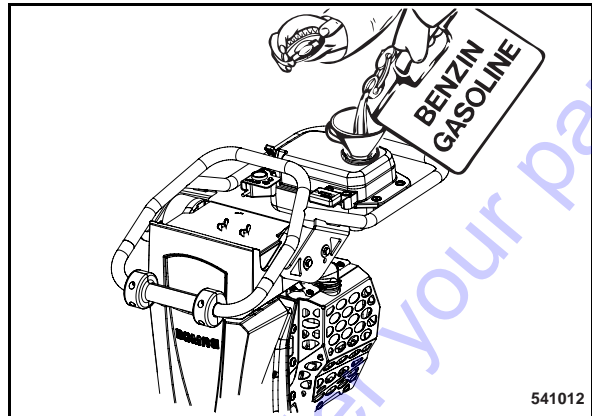

Fig. 32
- Clean the area around the filler cover, unscrew the filler cover (Fig. 32).